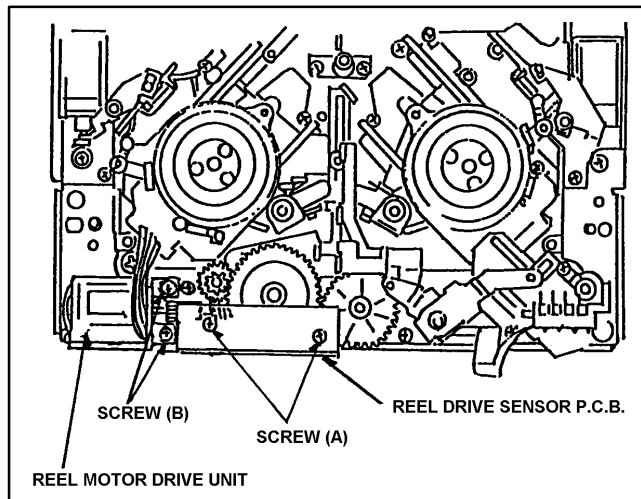

Figure 1-27
1. Disconnect the connector (A) on the P.C.Board (B).
2. Unscrew the 2 screws (A) and remove the Reel Drive Sensor P.C.Board as shown in Figure 1-27.
3. Unscrew the 2 screws (B) and remove the Reel Drive Motor Unit as shown in Figure 1-27.